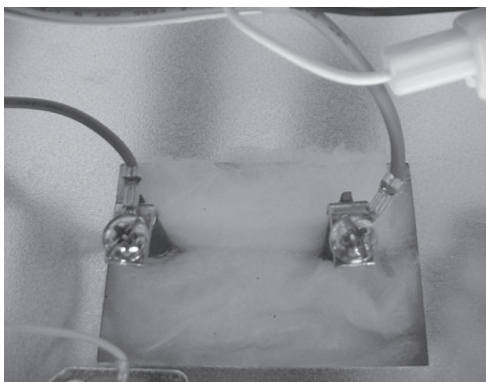

Fig. O-7
3. Disconnect the wires by removing (2) nuts from element (**Fig. O-7**)